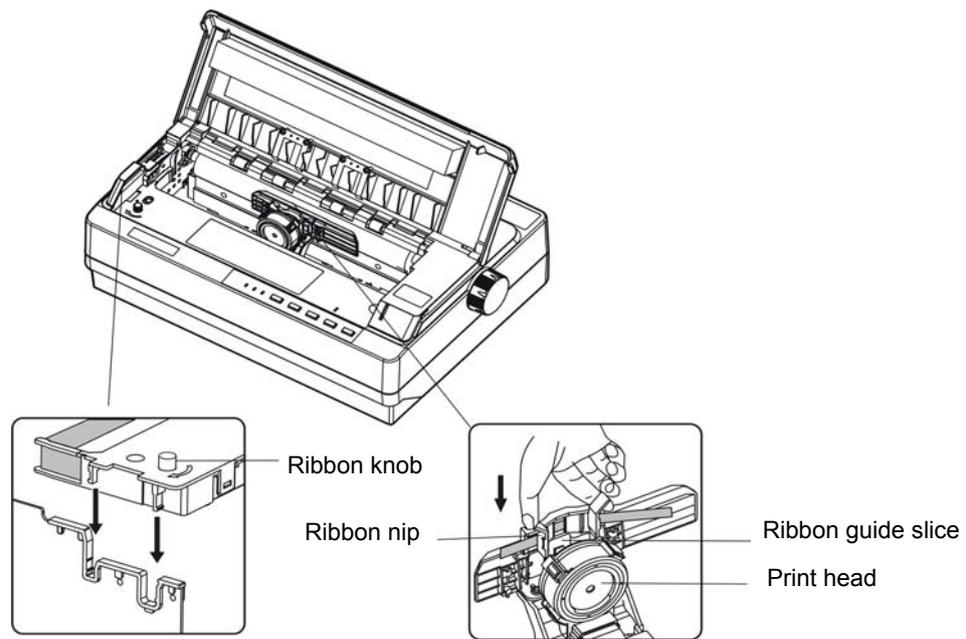

Figure 1-6 Install ribbon
6. Hold both sides of the ribbon cartridge and aim the buckles at the mounting slots of the printer, then press it firmly until it locks in place. Put the ribbon nip between print head and ribbon guide slice. (As shown in figure 1-6)